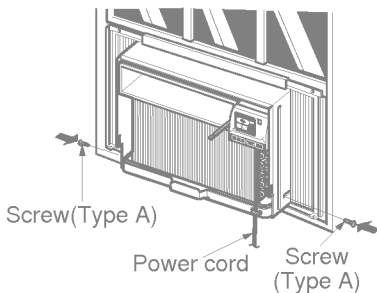

Fig. 7
- Slide the unit into the cabinet. (See Fig. 7)